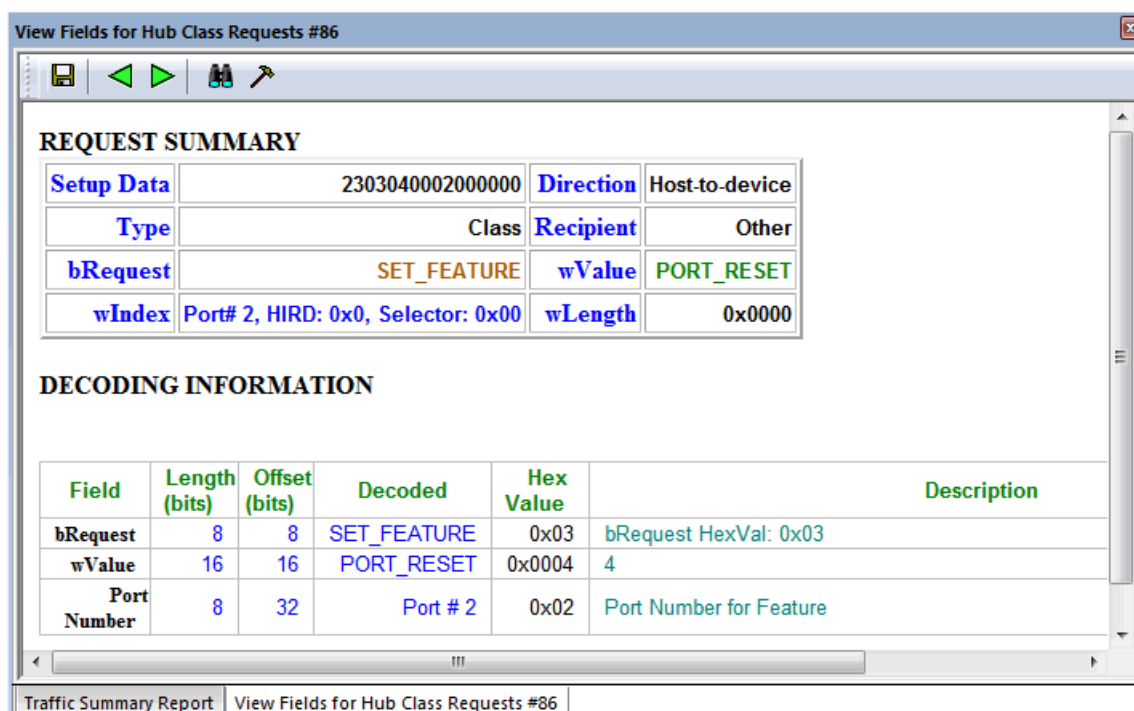

Figure 8.9: View Fields for Hub Class Requests Dialog
1. From the USB Device Request menu, select **Decode ... Request** to display the View Fields for ... Class Requests text box (see Figure 8.9 on page 292).